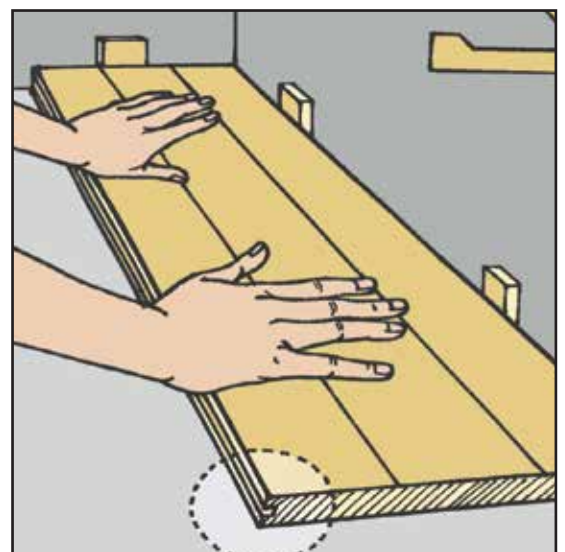

Fig. 6.1
3. The next board is installed at an angle (approx. 30°) against the end joint and carefully angled down (Fig. 6.1).